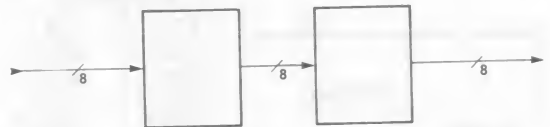

Figure 5B. Nose-to-Tail Configuration
- “Nose-to-tail” or “pipelined” (Figure 5B.)